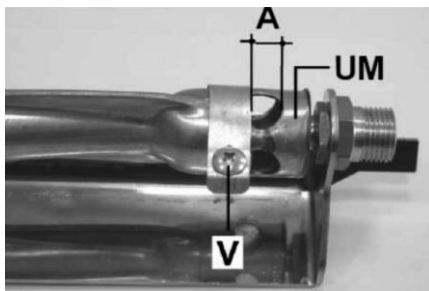

Fig. 3
6. Set the air controller within the distance of A (Fig. 3), as provided in Table 2.
7. Re-tighten firmly the V (Fig. 3) bolt.